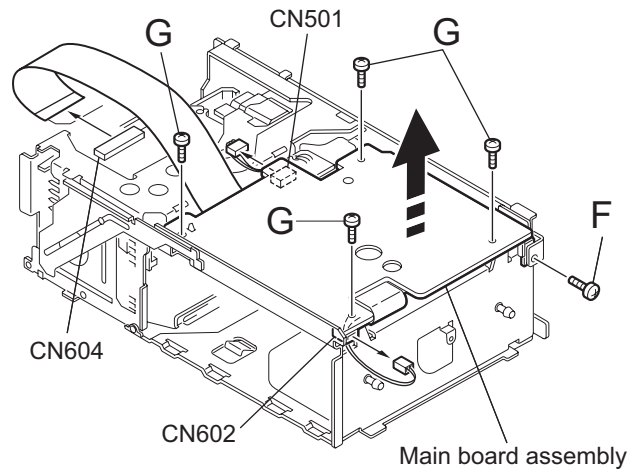

Fig.11
2.3.4 Removing the main board assembly (See fig.11)